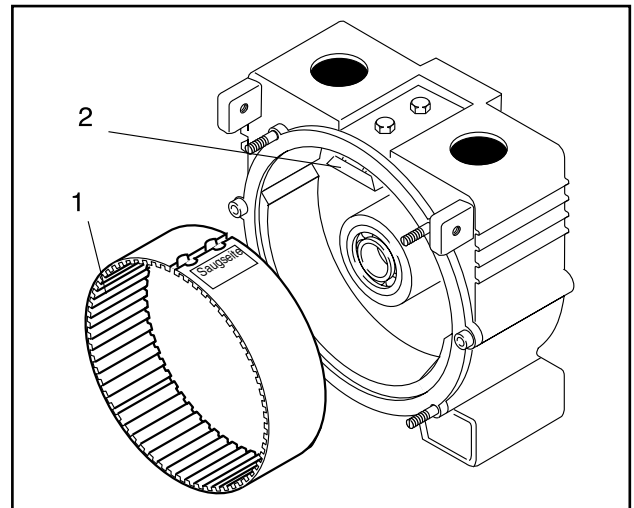

Fig. 20 Installation of separating part
2. Insert the new separating part into the holder with the gearing towards the inside (Fig. 20).